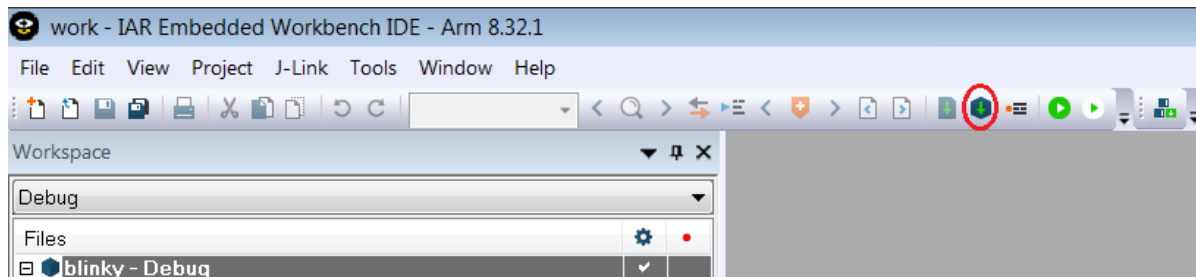

Figure 34. Starting to Build a Project in the IAR Embedded Workbench
1. Right click on the folder for blinky and choose **Rebuild All**. Alternatively, you can use the icon shown in Figure 34.